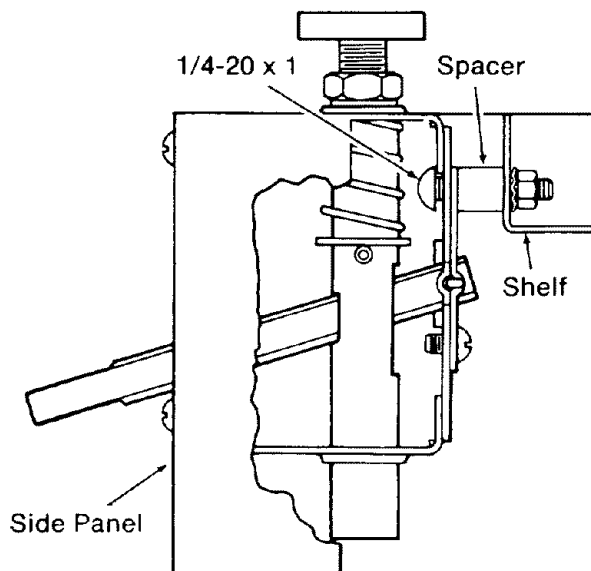

Fig. 39
21. Put a truss head bolt through the foot assembly, spacer, and shelf to hold the spacer in place. (Figures 39 & 40)